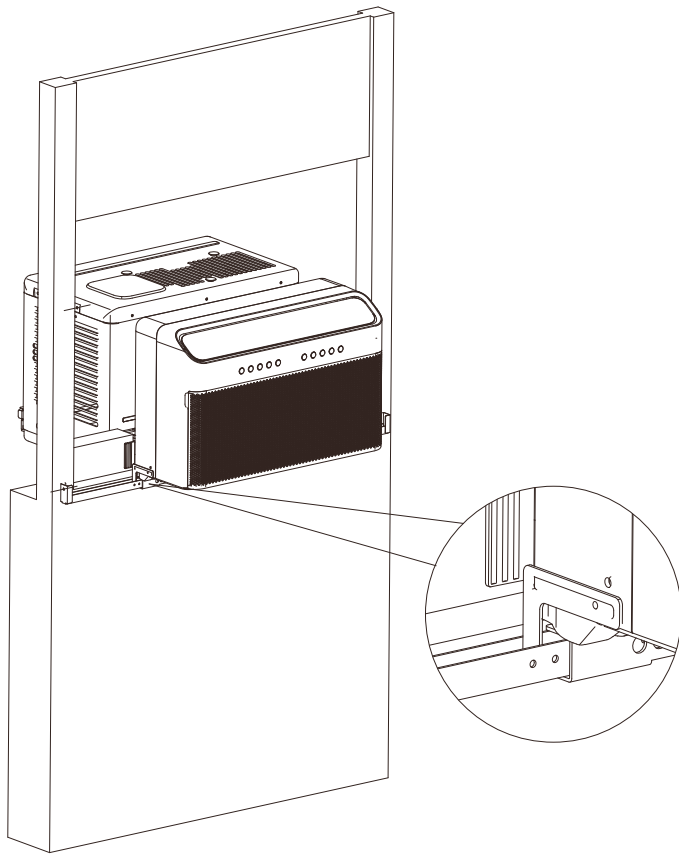

Fig.7
**B.** Fasten the AC with L plate. See Fig.7